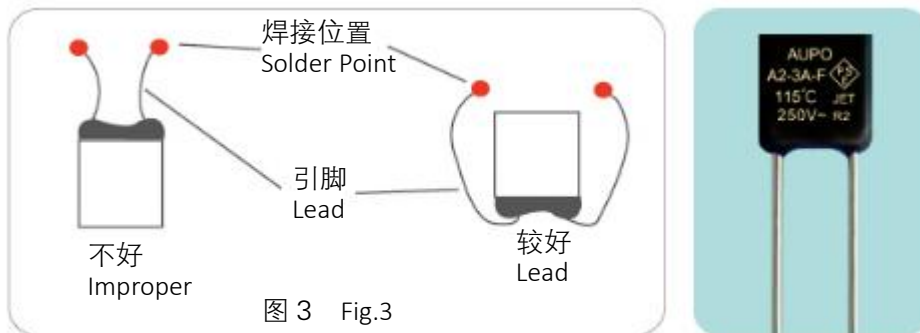

图 3 Fig.3
- 尽可能利用长一些的引脚，长一些的引脚允许较长的焊接时间及减少过热的可能性（见图 3）为如何在较小的位置保留长一些的引脚例子。在引脚较短的情况下，在焊接时要用尖嘴钳或其他工具夹在引脚上焊点和保险丝体之间位置上以散热，避免焊接量传入温度保险丝内部。同时焊接温度应控制不要过高，焊接时间尽可能短。
- Using the lead wires as long as possible' when soldering, longer leads permit a longer soldering time and reduce the possibility of overheating. Fig.3 is an example of how to keep longer lead wires when a thermal cutoff is installed in a small space. It is recommend that using a heat sink between the soldering point and sealant to minimized the heat transmission to thermal cutoff. Avoid the soldering temperature is too high and keep the soldering time as short as possible.